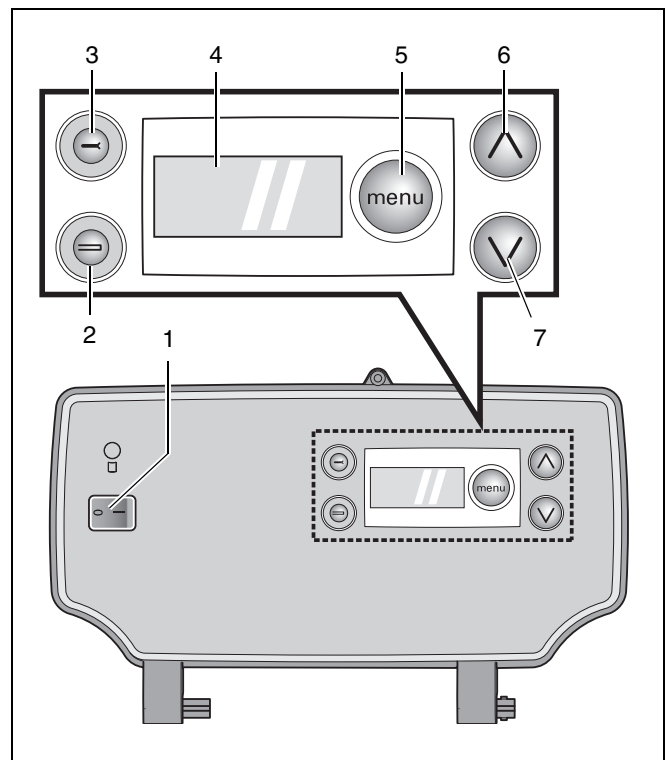
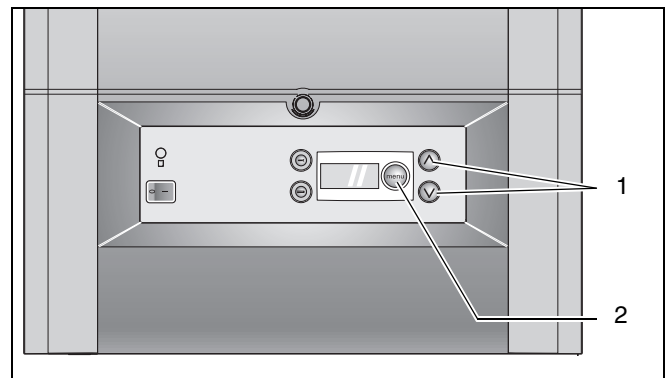

fig. 43 DBA
fig. 48 DBA - adjusting arrows
1. Mains switch (see fig. 43)
2. Reset button "⊖" (see fig. 43)
- item 1: mains switch
- item 2: "reset" button
- item 3: "service" button
- item 4: display
- item 5: "menu" button
- item 6: adjusting arrow up
- item 7: adjusting arrow down
3. Service Button "⊖" (see fig. 43)
4. Display (see fig. 43)
5. Menu button "menu" (see fig. 43)
6. and 7. Up "⬆" and Down "⬇" keys (see fig. 43)
- Press "menu" button twice then adjust the DHW temperature to the desired temperature (40 °C - 60 °C) using the "⬆" and "⬇" keys (see fig. 48, item 1). Factory setting is 48 °C.
- Press the  button (see fig. 48, item 2) three times.
- Press  button (see fig. 48, item 2) four times then adjust the flow temperature to the desired temperature (30 °C – 80 °C) using the  and  keys (see fig. 43, item 1). Factory setting is 80 °C.